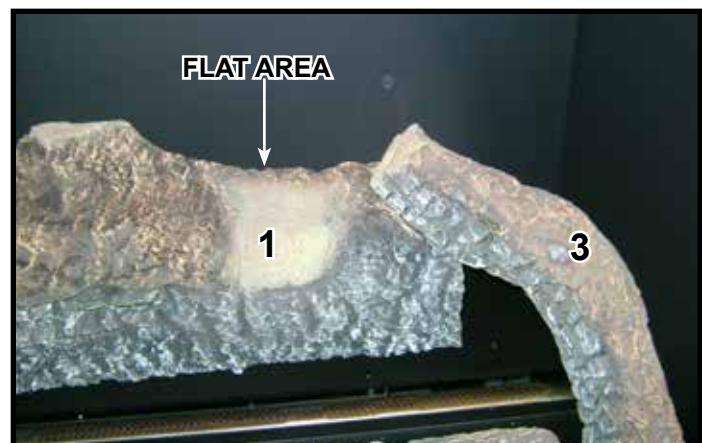

Figure 10. Flat Area of Log #1 Used for Log #4 Placement
**Log #4 (2033-720):** Log #4 is used twice in this log set. The right log is located by placing the "Y-Shaped" end on the flat area of Log #1 and setting the other end on the right side Log #2. See Figure 10 and Figure 13. The log should be approximately one inch from the end of the right side Log #2. See Figure 14.